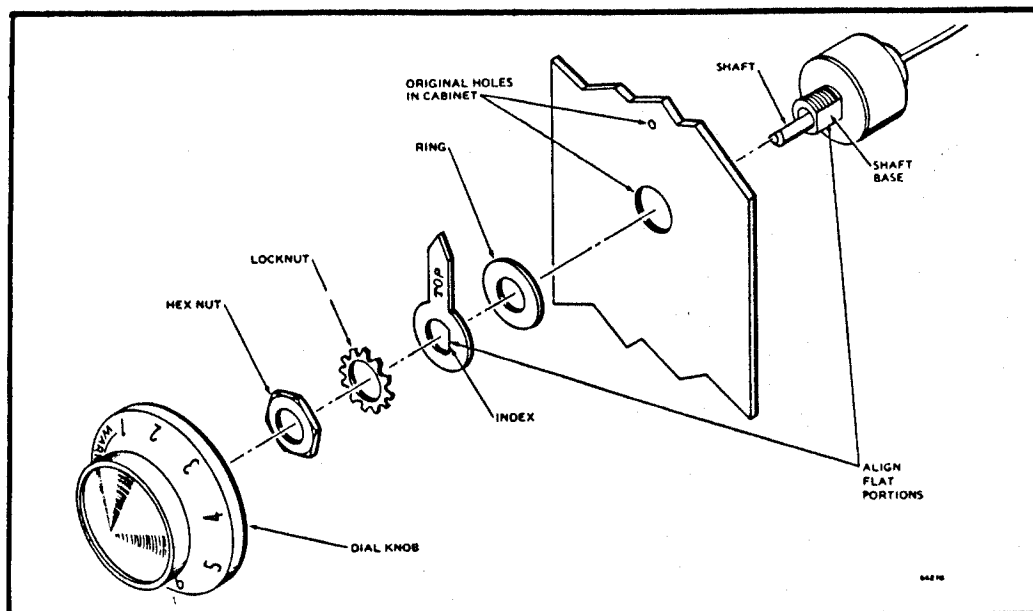

Fig. 23—Replacing self-indexing dial.
2. Place the ring in the large hole left by the old dial (Fig. 23).